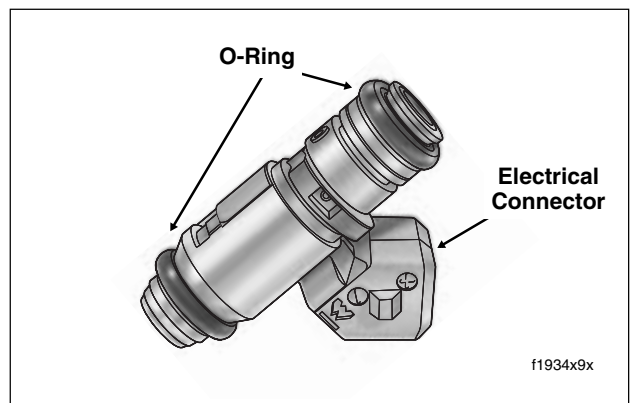

Figure 9-31. Fuel Injector
8. Remove O-rings from fuel injectors. Discard O-rings. See Figure 9-31.
1. Apply a thin coat of clean engine oil to **new** injector O-rings. Install O-rings on fuel injectors. See Figure 9-31.
7. Remove O-rings from fuel injectors. Discard O-rings. See Figure 9-31.